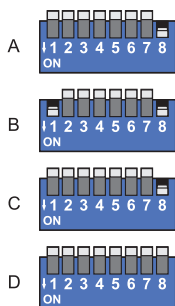

Fig. 5.1.1
2. Operate the dip switch by moving lever 8 to the **ON** position and then lever 1 as shown in Figure 5.1.1. After about 2 seconds the red 'OK' LED will remain steadily on to indicate correct acquisition of the line impedance.